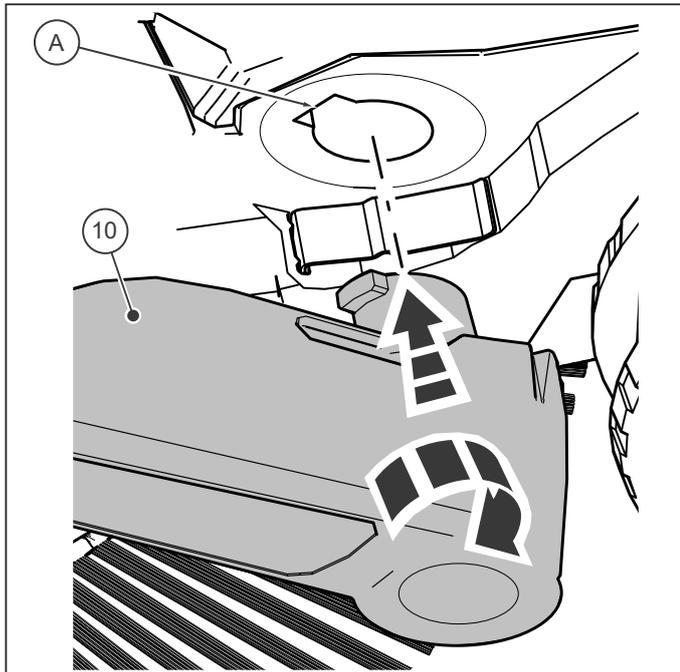

Fig. 2: Fitting the handle fittings
1. Position the handle fittings (10) as shown in Figure 2.
2. In this position, insert the handle fittings (10) into the intended receptacle (A) of the sweeping machine up to the stop.